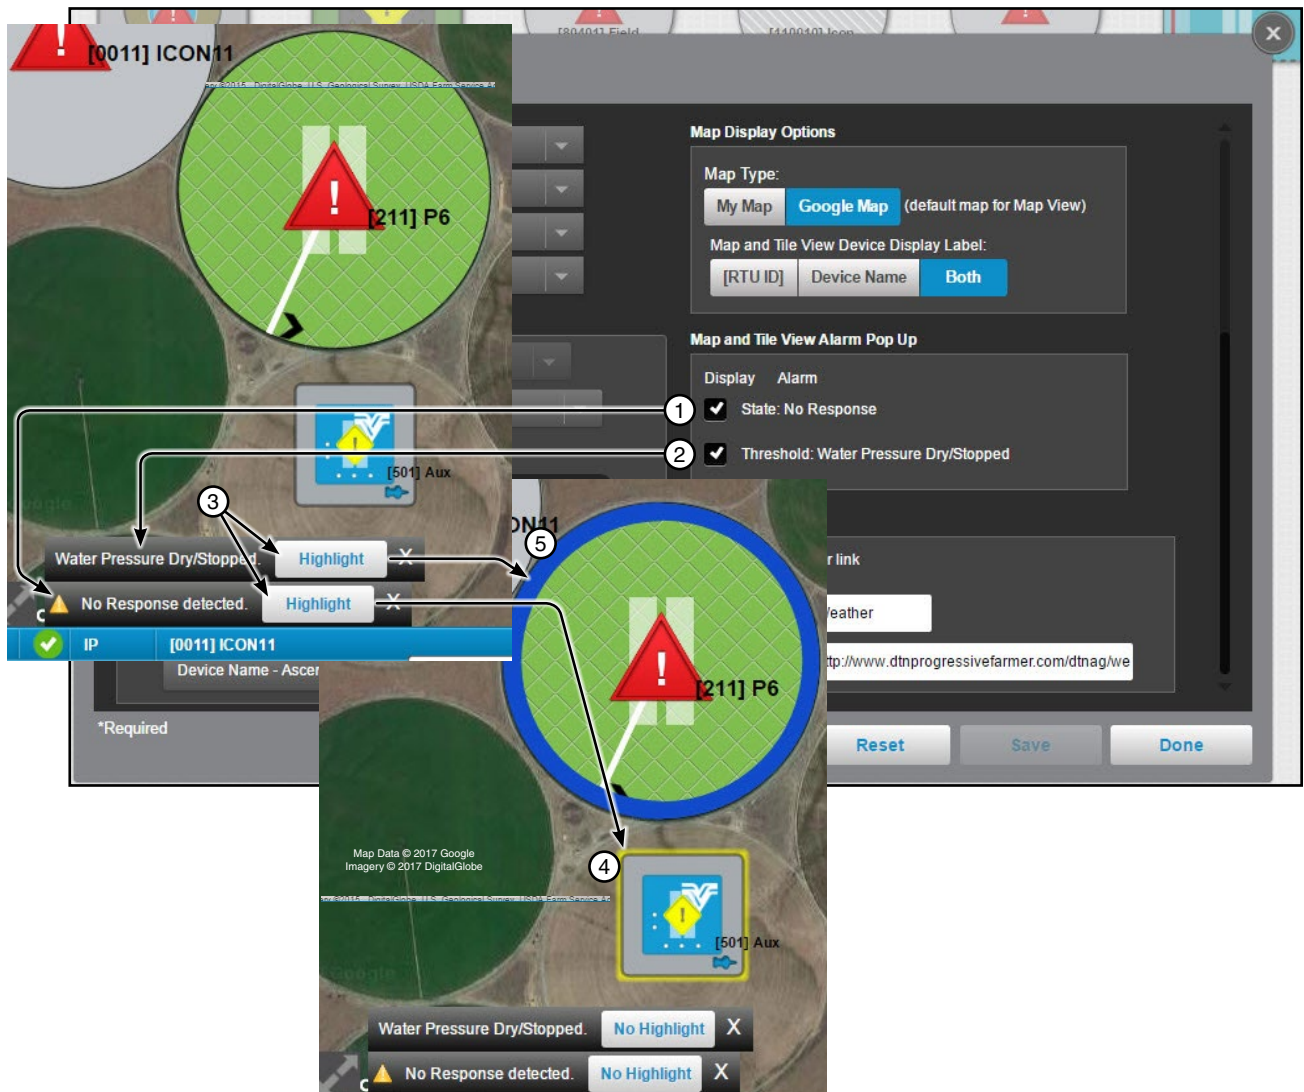

Figure 103-1 1. Map and Tile View Alarm Pop Up
- **No Response Alarm:** When the alarm occurs, the alarm pop up will appear at the bottom of the screen. Click Highlight, to highlight devices that have not responded with a yellow halo. Click No Highlight to remove the yellow halo. See Figure 103-1.
- **Water Pressure Dry/Stopped:** When the threshold is reached, the alarm will appear at the bottom of the screen. The highlight for this alarm will be blue. See Figure 103-1.